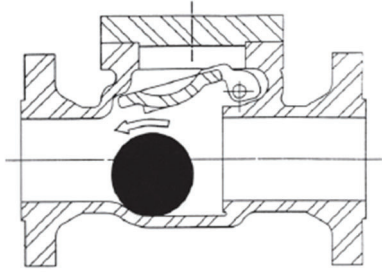

Figure 1. Check valve.
- Figure 1.** T.D. Williamson, Guide to Pigging, 2016